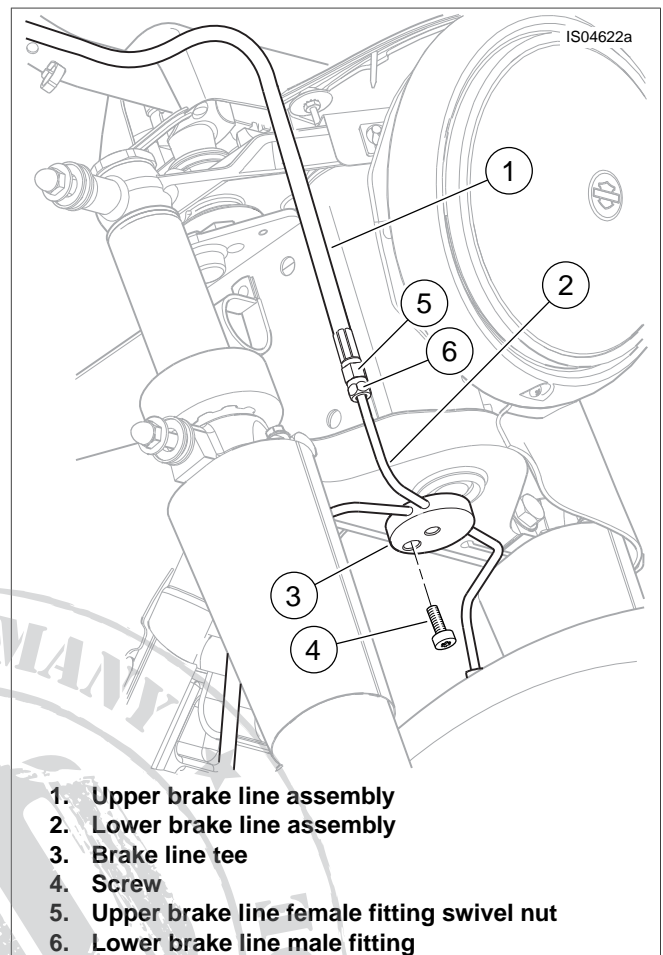

Figure 1. Front Brake Lines (Road King Model Shown)
- See Figure 1. Obtain the **new** lower brake line assembly (2).
- See Figure 1. Position the upper brake line female fitting swivel nut (5) to the male fitting (6) on the lower brake line. Thread the nut onto the male fitting finger-tight, do not twist the upper or lower brake lines while tightening.